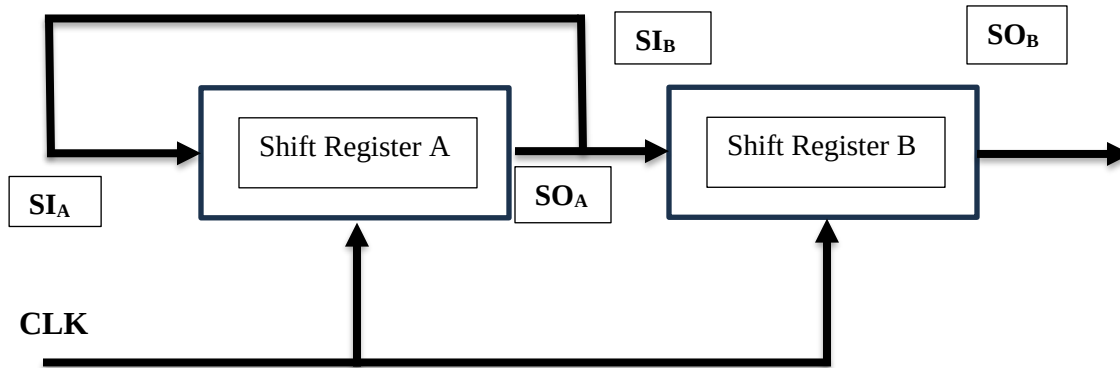

Figure1.
- Using two 4-bit universal shift register (SN74LS194AN) implement the circuit shown in figure1. Load register A and B with some initial 4-bit value and perform the right shift operation of 1-bit for each clock cycle and observe the changes in register value through LEDs.